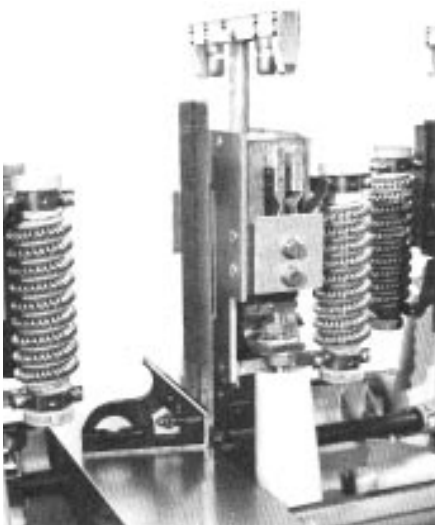

Figure 21.
- C. Using a flat plate spanning the head casting as a base, square the side of the contact housing as shown in Figure 21. If not square the contact housing can be forced into the squared position.